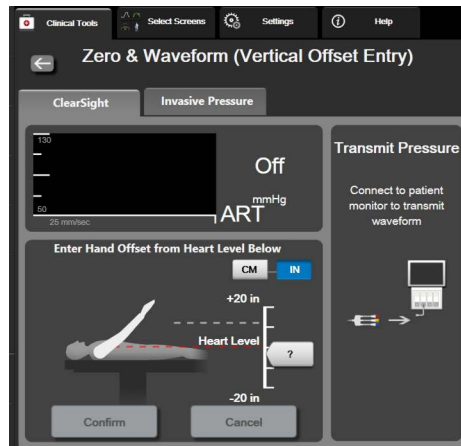

Figure 9-6 Zero & Waveform screen – Vertical Offset Entry
- 3 The **Zero & Waveform** screen in this mode (shown in figure 9-6) will depict a vertical scale bar to represent the offset of the hand relative to the heart; the heart level is set at zero. A positive offset signifies a patient position where the hand is above the heart. Select the units of the scale bar: **CM** or **IN**.